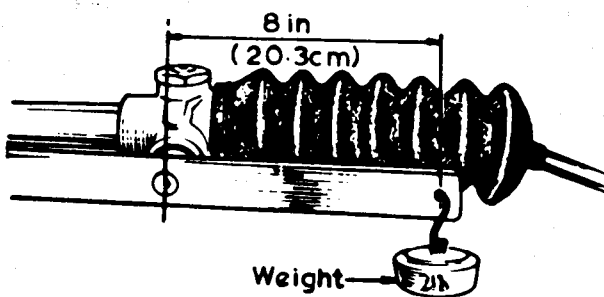

Fig. 13 - Rotating the Pinion.
- d/ When the nut is correctly adjusted, a force of 2 lb. (.91 kg.) is required to rotate the pinion at a radius of 8 in. (20.3 cm) see Fig.13. Check and re-adjust the unit, if necessary, by adding or subtracting shims from beneath the cap nut.
13. Fit the modified tie-rod adaptors to the ball joints using the  $\frac{1}{2}$  in. (12.7 mm.) spring washers as shown in Fig. 13. Torque tighten to 50 lbs/ft (6.91 kg. m.)